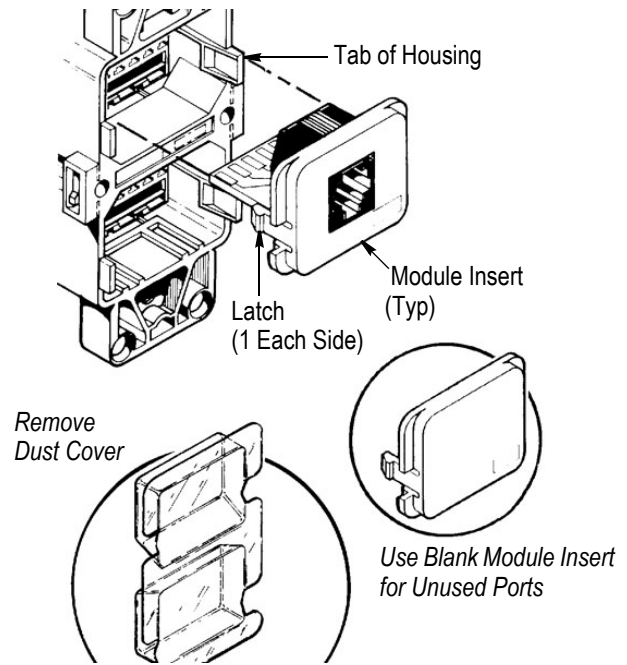

Figure 6
1. Refer to Figure 6, and install module inserts as follows: